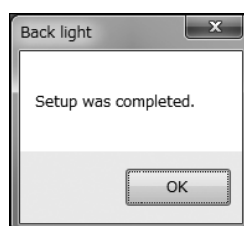

Fig.94
- ⑥ Click "OK" to change the settings to the selected values, and then click the "OK" button in the displayed message box (Fig. 94) to complete the setting process.